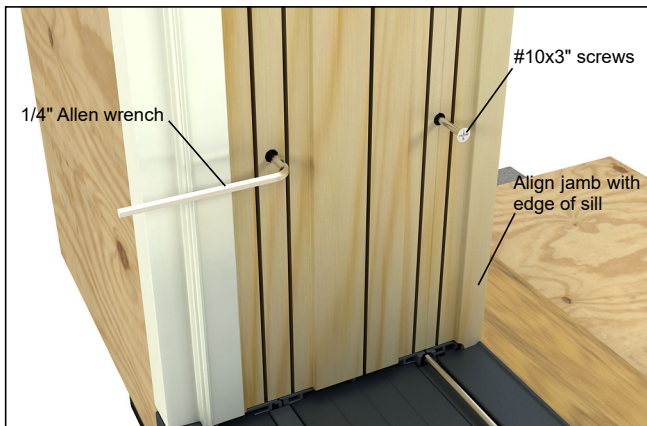

Figure 23
2. Adjust bottom jamb shim screw using a 1/4" Allen wrench until the back side of the jamb is flush with the end of the sill track. Anchor bottom of the jamb in place with an installation screw. See figure 23.